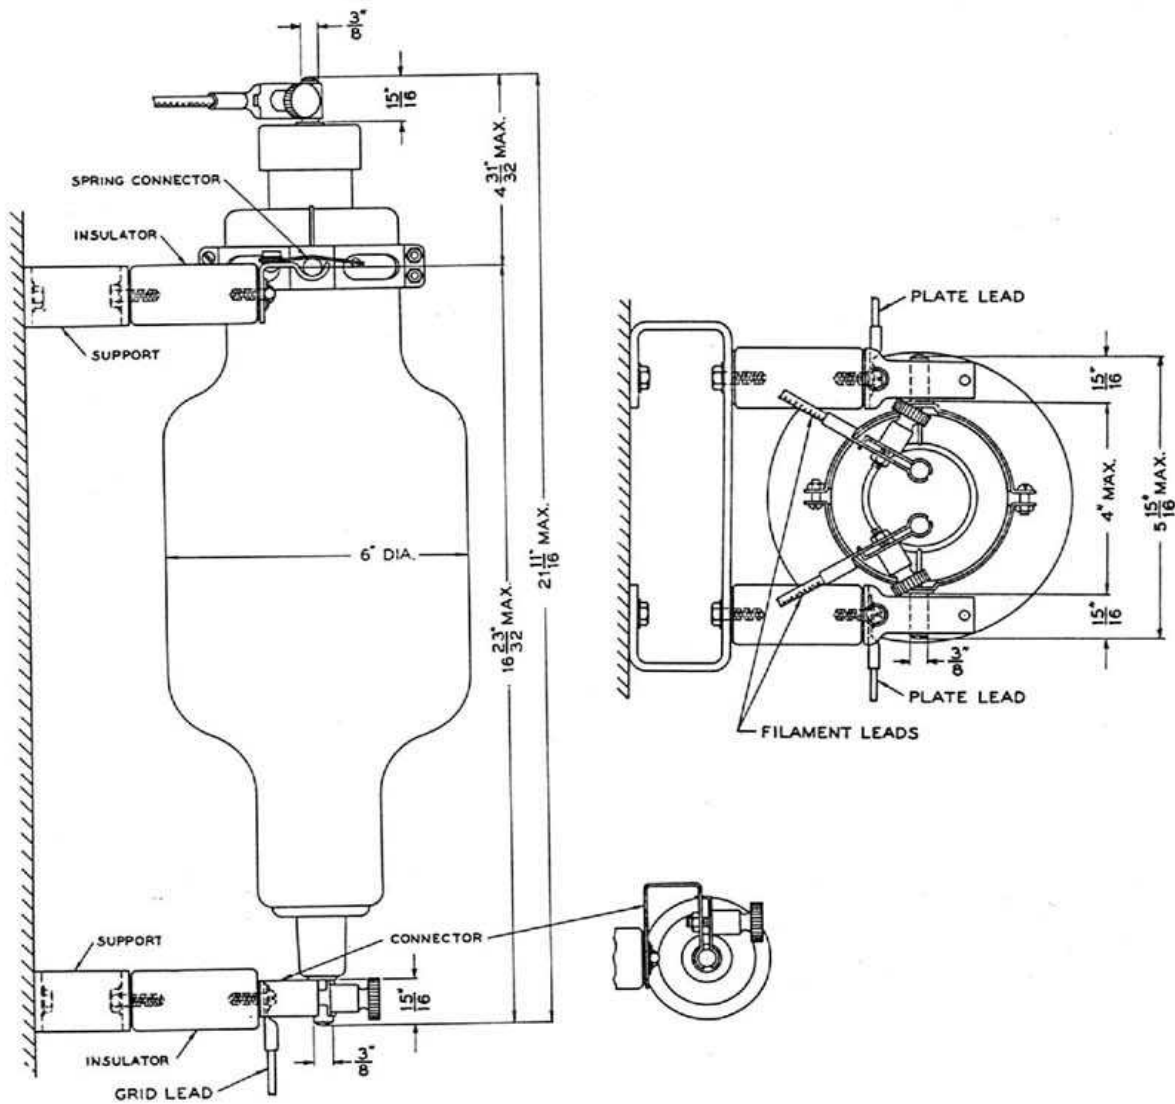

FIG. 1
**Dimensions—**Dimensions and outline diagrams are shown in Figure 1. The overall dimensions are:
**Mounting—**W.E. 142A or similar socket. See Figure 1 for mounting arrangements. The tube should be mounted in a vertical position.
**Mechanical**—Figure 1 shows the overall dimensions and basing arrangement for the tube.